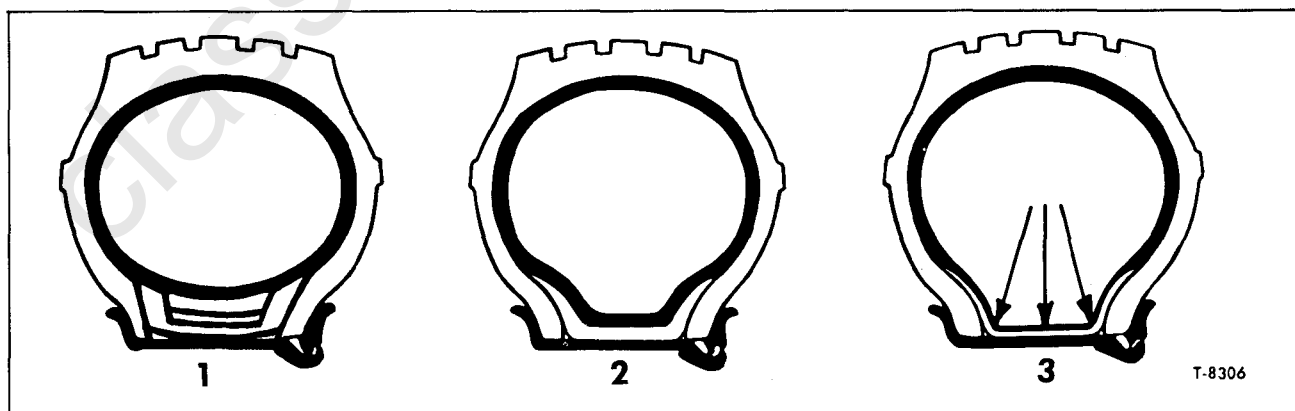

Figure 15—Proper Tube Inflation
1. Insert tube in tire and inflate as shown in figure 15, View 1. rounded out. Use approximately 1 lb. of air or less.
5. Re-inflate tube to recommended pressure (fig. 15, View 2). Refer to "Load and Inflation Table" at end of this section.
**NOTE:** Used flaps may cause tube failure UNLESS mounted with the size tire and rim originally used. When tube and flap are not properly lubricated and mounted, they will be stretched thin in the tire bead and rim region (fig. 15, View 3). This will cause premature failure.